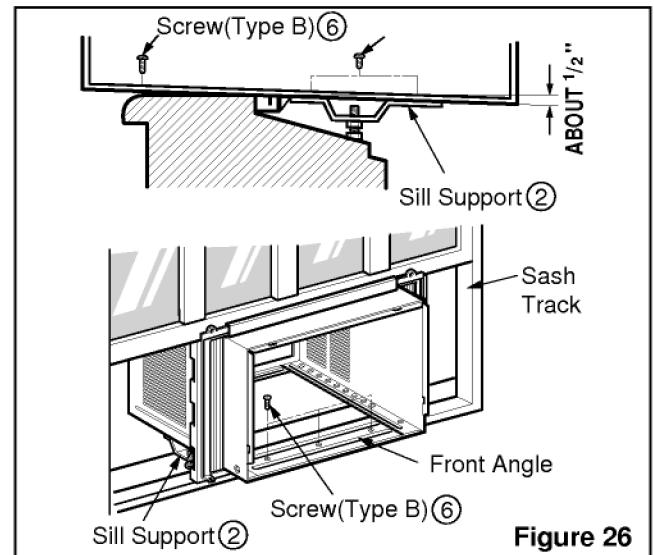

Figure 26
7. The cabinet should be installed with a very **slight tilt (about 1/2") downward** toward the outside (See Fig. 26).